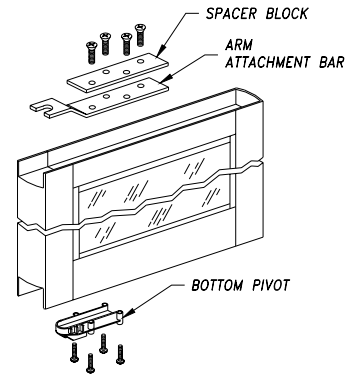

FIGURE 10: Door Preparation
2. Install the arm attachment bar (#65399-100) and the spacer block (#65406-100) with four 1/4-20 x 1-1/4" long flat head screws. Install the bottom pivot assembly (#10140-000) with four #10 pan head screws (Figure 10).